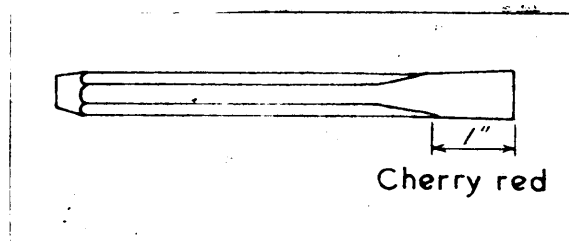

Figure 1.
1. Heat the sharpened or forged and slowly and carefully up to about 1", to a cherry red. (Fig. 1) While heating frequently turn the chisel in order that it will be thoroughly heated. The color should be seen in the shade of the forge or in a slightly dark place, as the cherry red will not show up well in a bright light.